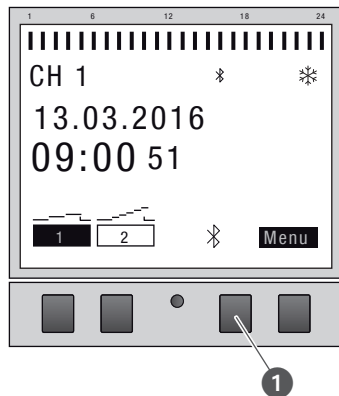

Fig. 20: Establishing a Bluetooth connection to the DIN-rail timer
1. Press the Bluetooth button (Fig. 20/①) on the DIN-rail timer.